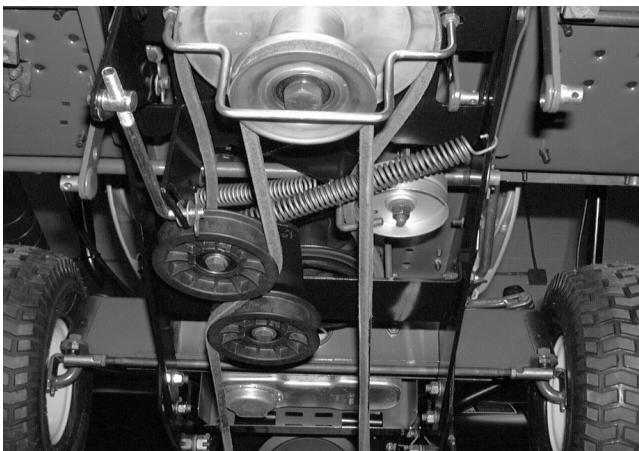

FIGURE 7.
32. Pivot the belt guard to the left. See figure 7.